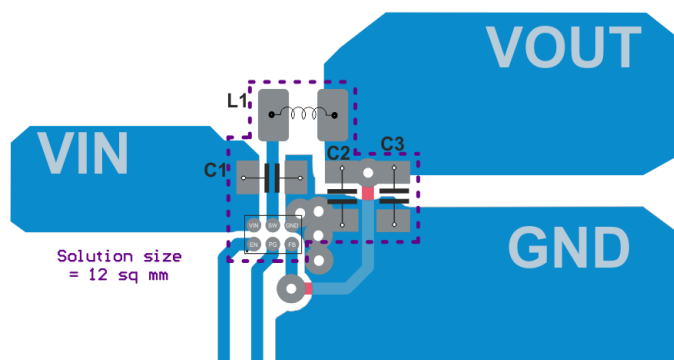

Figure 15. PCB Layout of Fixed Output Voltage Application
The printed-circuit-board (PCB) layout is an important step to maintain the high performance of the device. See and Figure 15 for the recommended PCB layout.
- Refer to and Figure 15 for an example of component placement, routing and thermal design.